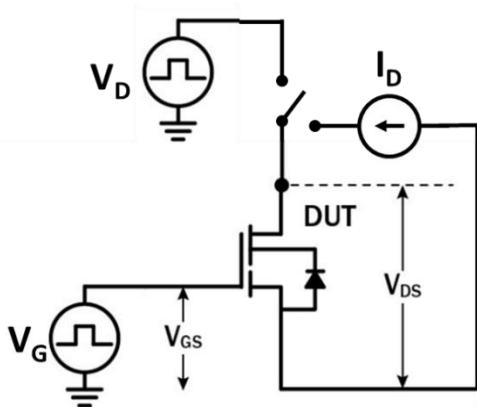

Figure 18. Dynamic  $R_{DS(on)eff}$  Test Circuit
- g. Dynamic  $R_{DS(on)}$ , 100% tested; see Figures 18 and 19 for conditions